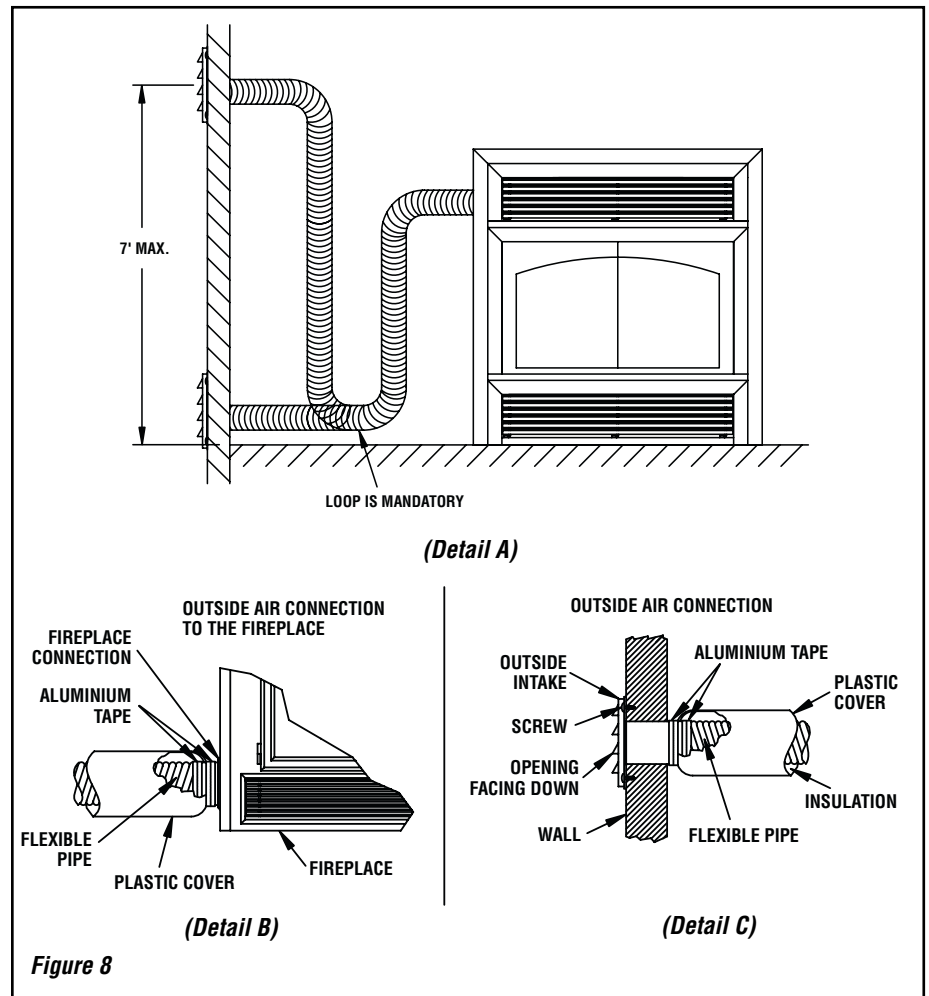

Figure 8
7. It is recommended to install the outside air register at floor level. However, if you must raise the air register above the fireplace level, you will have to make a loop to the floor with the flexible pipe to prevent from causing a draft in the outside air register (see **Figure 8 Detail A**).